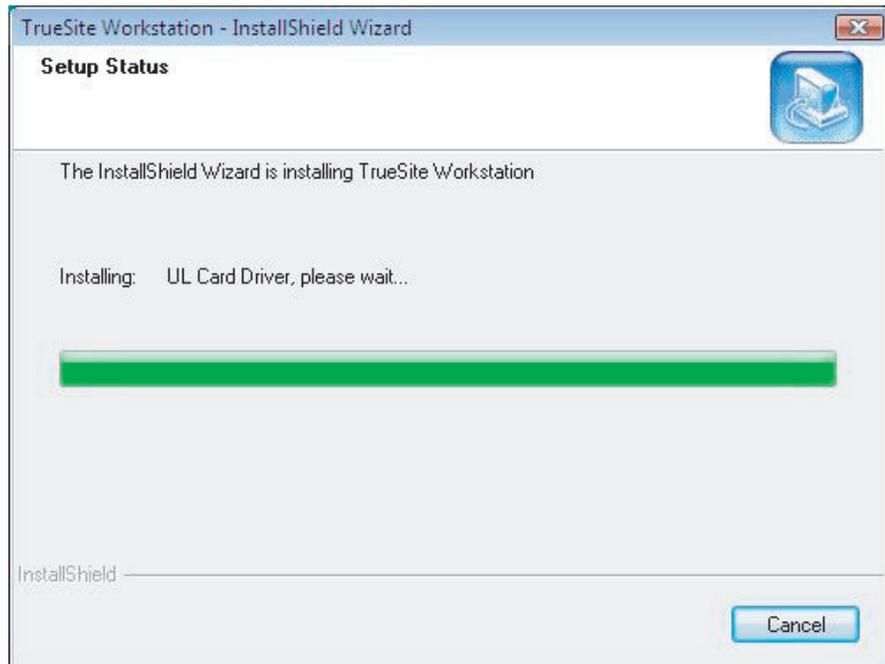

Figure 3-18 UL Card Driver Installation
- j. After the network card driver is installed, the UL card driver is installed as well as shown in Figure 3-18.